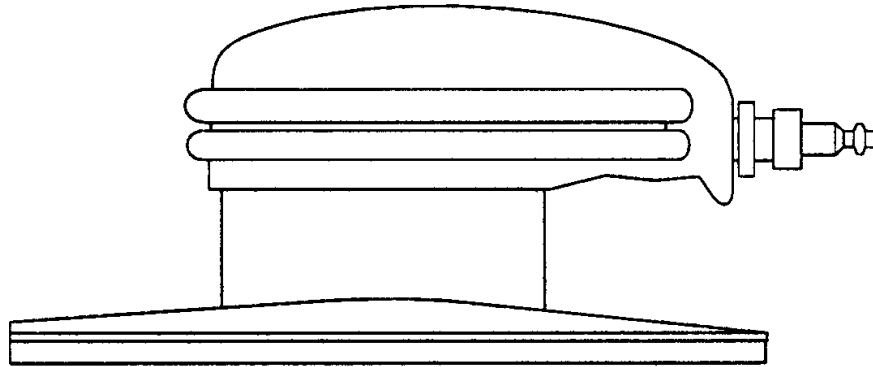

Figure 12 - Vibratory Sander
5.3.11 Vibratory Sander (see Figure 12)